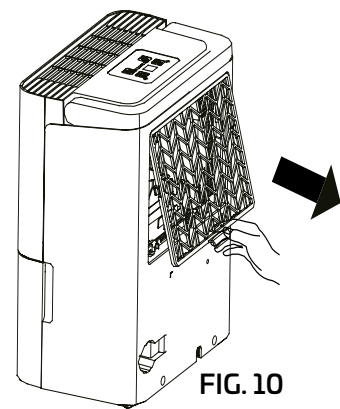

FIG. 10
- Grip the tab on the filter and pull it upward, then pull it out as shown in Fig.10.